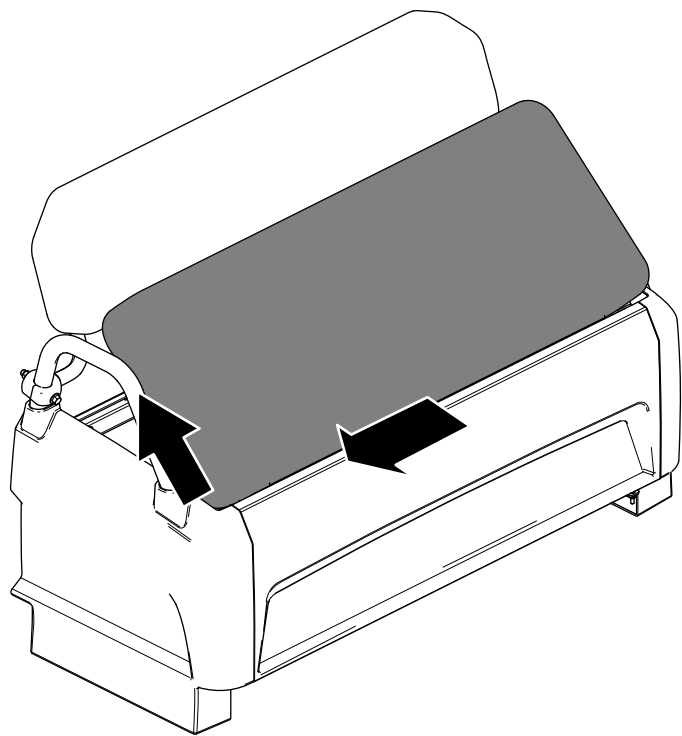

Figure 33
2. Slide the cushion to the side, out of the pins, and lift the cushion upward (Figure 33).